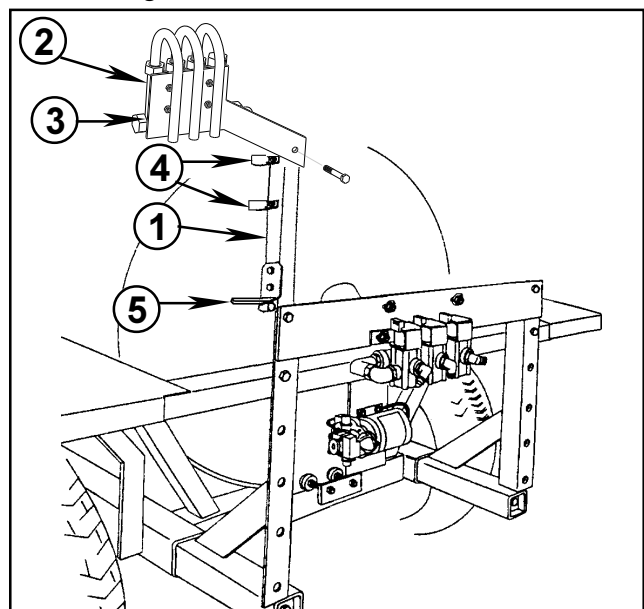

FIG. 4
3. Assemble the Cross Support Angle, Flow Monitor Mount and Flow Monitor Mount Extender Bracket onto the Boom Mount Assemblies with (2) 1/2" x 1-1/4" hex hd. cap screws and lock nuts as per FIG 4.
4. Assemble (2) R-Clamps and Hose Bracket complete with grommet onto the Flow Monitor Extender Bracket using (4) 5/16" x 3/4" UNC hex hd. cap screws and nuts.
5. Using a torque wrench, tighten the (2) 1/2" x 18" screws that join the Wedge Tubes to the Boom Mounts. Tighten to 50 ft. lbs.